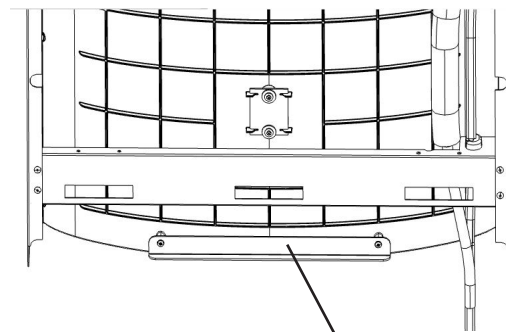

Fig. 13
- 6) Install gasket on bottom of bottle filler tower with gasket support bracket & (2) screws (See Fig 13).